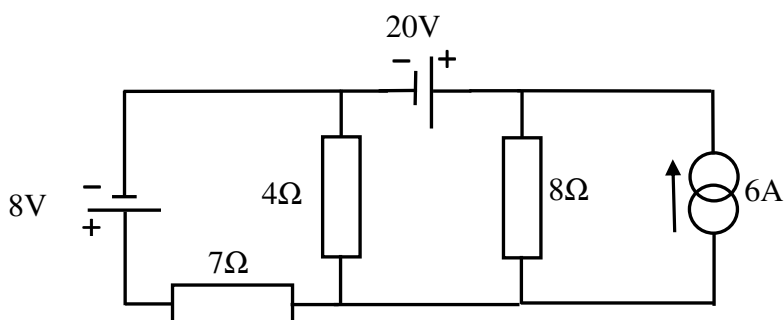

Figure 3.2
- b. A constant current source of 6A is added to the network in parallel with the  $8\Omega$  resistor, as shown in Figure 3.2. Calculate the new current through the  $4\Omega$  resistor. (4)